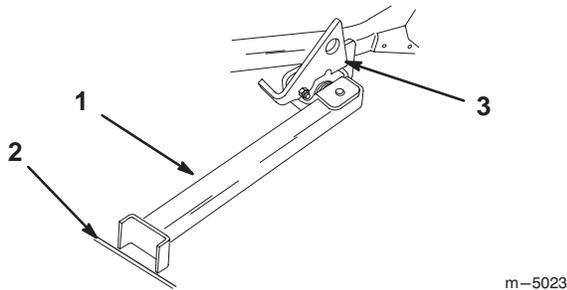

Figure 28
3. Swing stand foot out front and slide stand toward machine, into the bottom of slot (Fig. 28).
4. Set foot of stand on ground and rest latch on pivot tab (Fig. 28).
Note: For best results, place foot of stand into seams in sidewalks or into turf (Fig. 28).